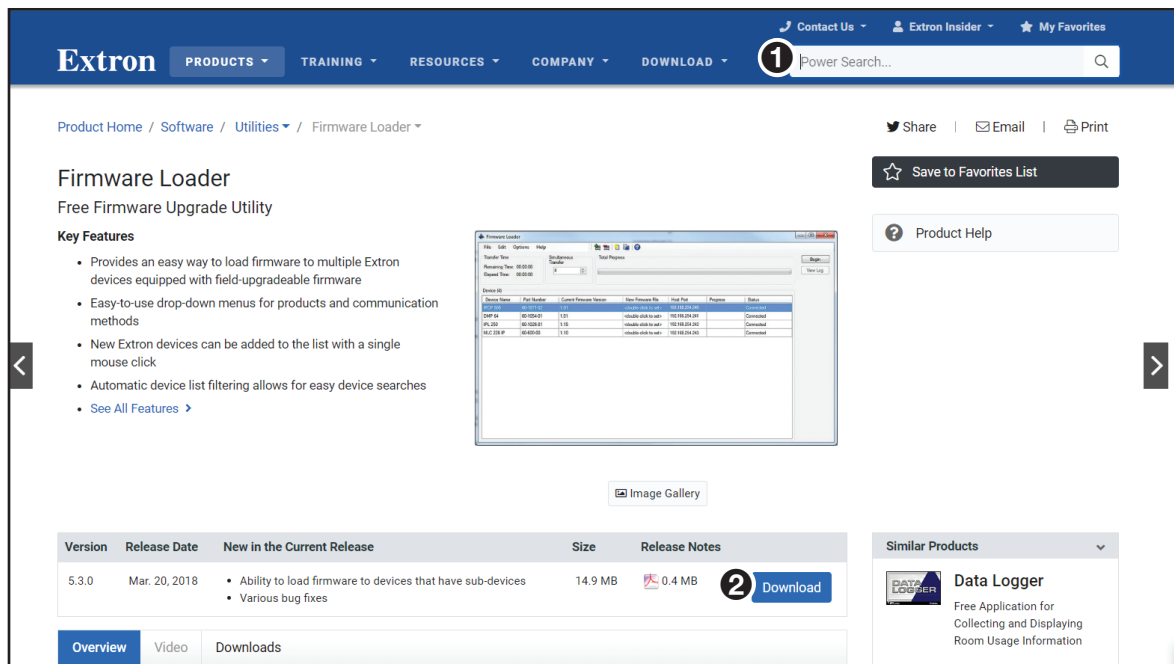

Figure 15. Firmware Loader Download Link
2. In the **Search** field, enter **Firmware Loader** and press <Enter> (see figure 15, ①).